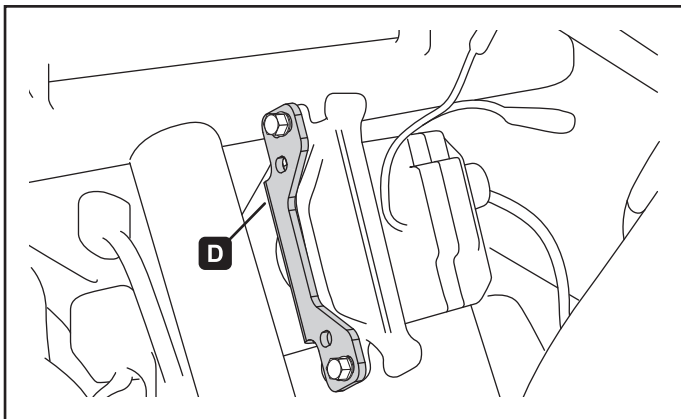

Figure 9.
- Mount contactor bracket (D) with bolts (G), washers (J) and nuts (L). The holes in the machine may need drilled to accommodate the hardware.
- Mount your contactor to the contactor bracket (D) with the hardware provided with your winch, as shown in figure 9.